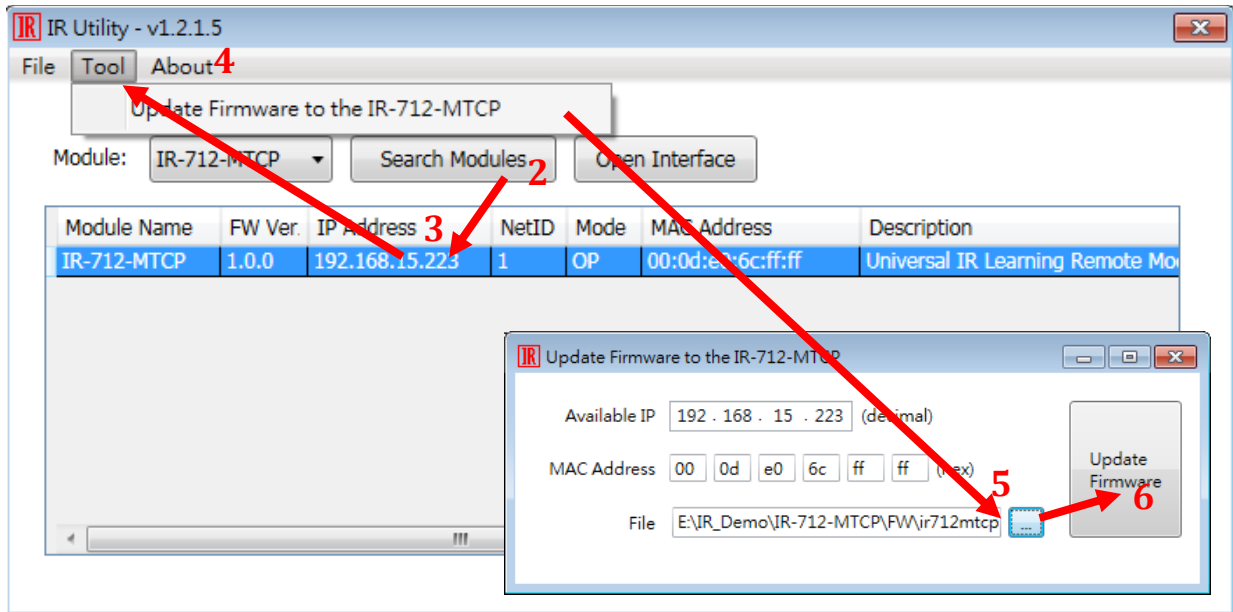
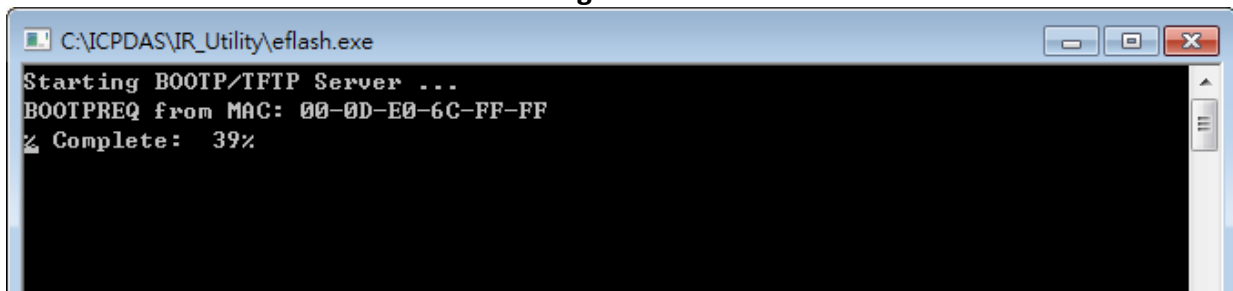

Figure A-2
Figure A-3
- (2) Click the “Search Modules” button to search the IR-712-MTCP (Figure A-2) .
- (3) Mouse selects the searched module in the table.
- (4) Click [Tool]->[Update Firmware to the IR-712-MTCP] to open the update dialog.
- (5) Select the firmware file (ir712mtcp_v###.dat).
- (6) Press the “Update Firmware” button.
- (7) A Console window appears to finish the update progress 100% (Figure A-3).
- (8) Push the DIP switch back to the “OP” position and power cycle the module.